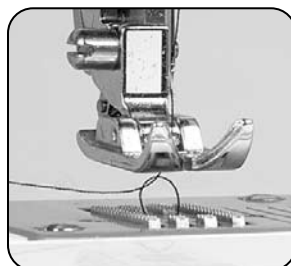

Fig. 12
3. Gently pull up on the needle thread [Fig. 12]. The bobbin thread, looped around the needle thread, will be drawn up through the needle hole.